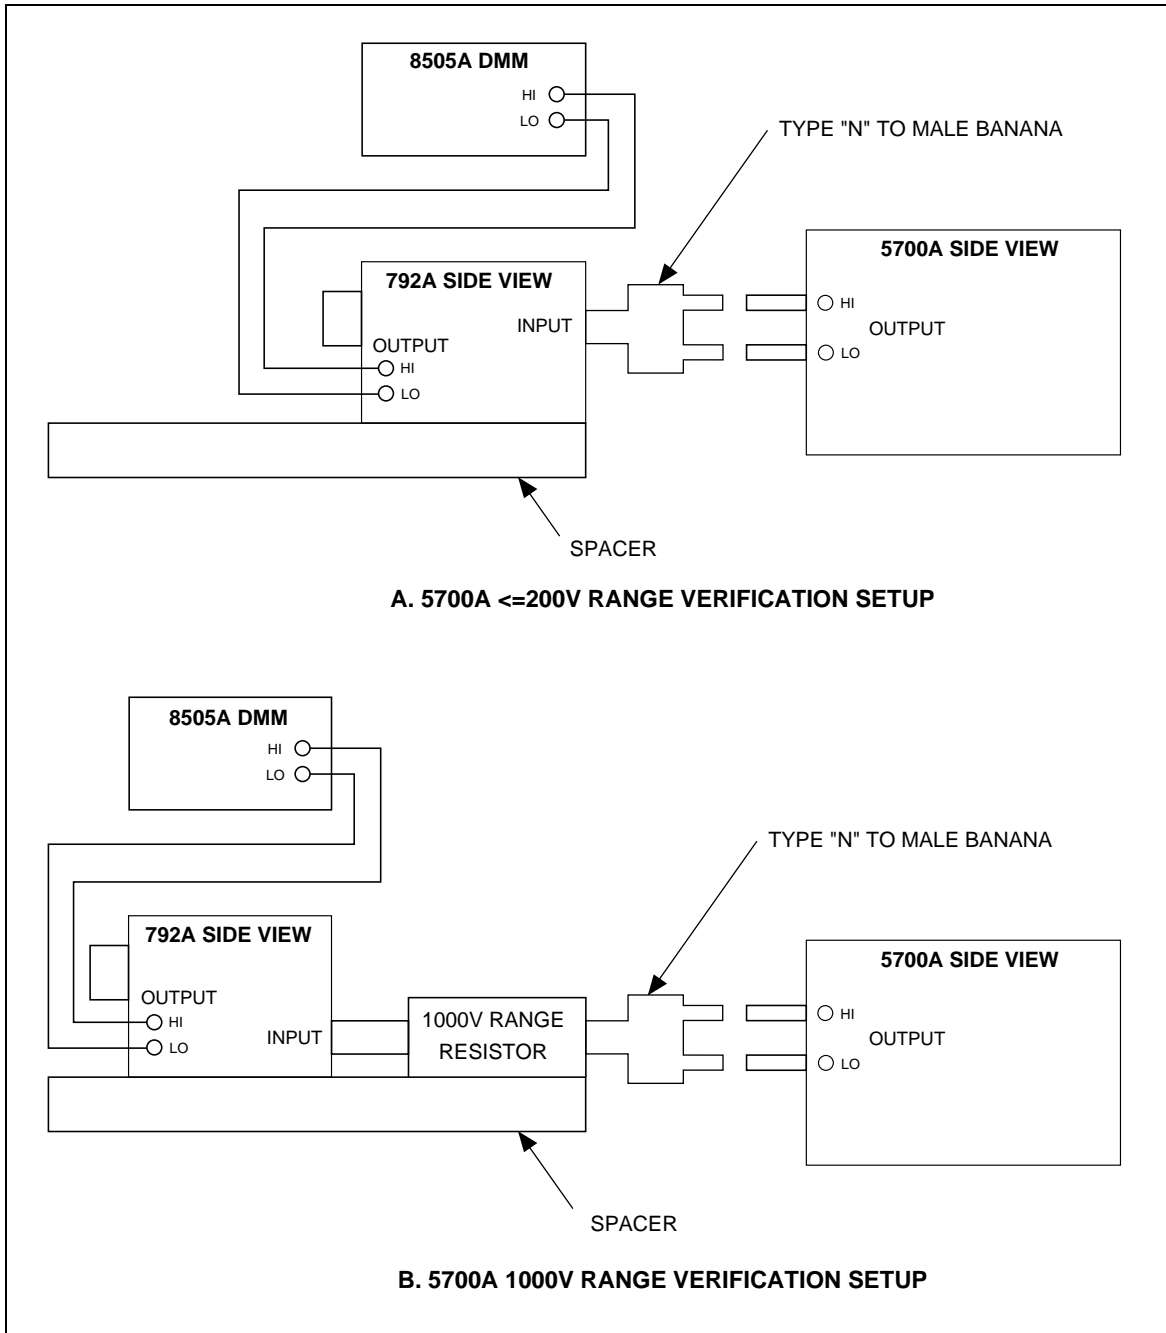

Figure 3A-7. AC Voltage Test Setup
11. Repeat this procedure at the 20 V, 200 mV, 20 mV and 200V ranges. At all voltages be sure the 792A RANGE SELECT switch is set to the appropriate range before applying voltage. At voltages above 200V for the 792A, use the 1000V range resistor and set the 792A to 2.2V. Refer to Figure 3A-7b for connections.